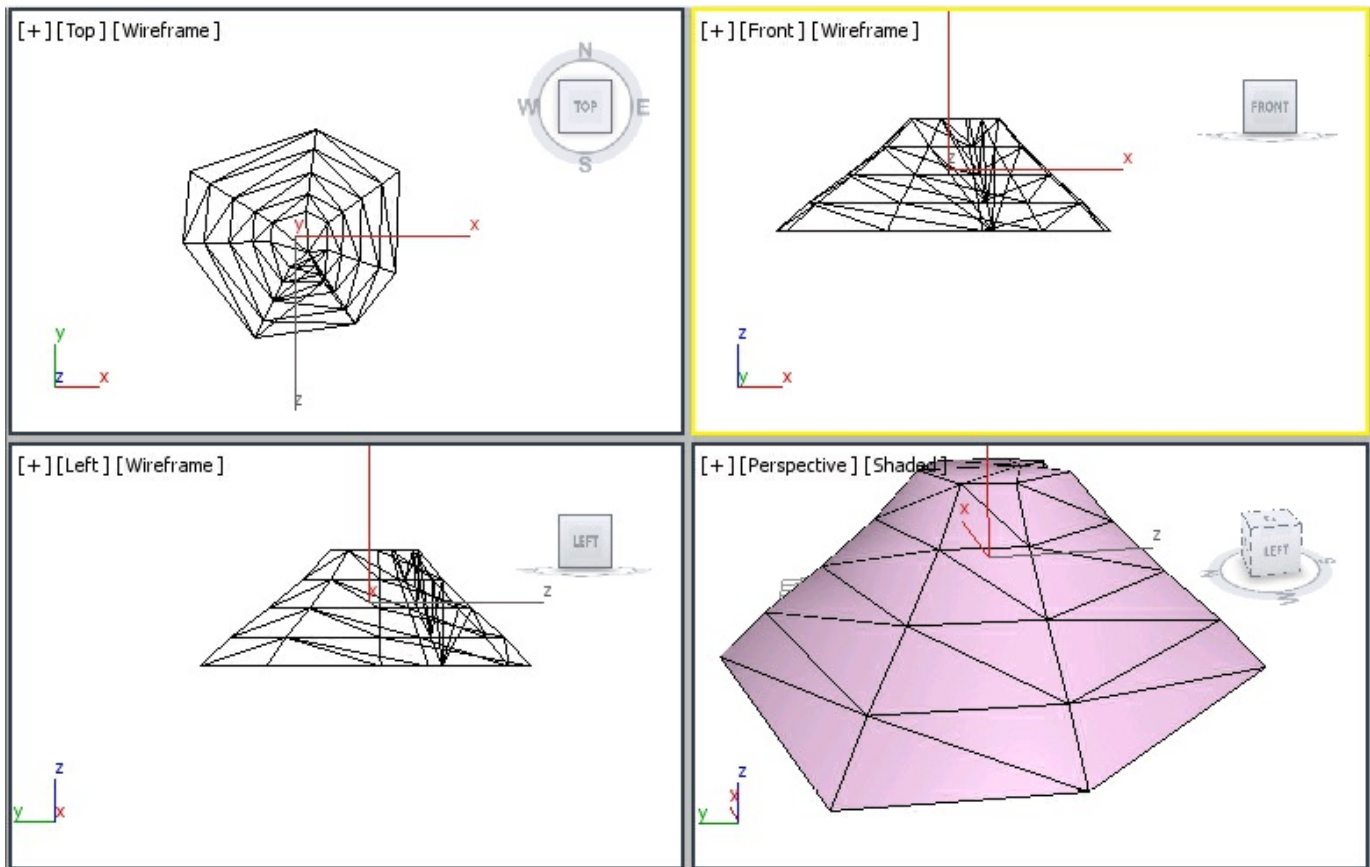

Figure 11-95 The terrain object created in viewports
8. Choose **Create > Geometry** in the **Command Panel** and select **Compound Objects** from the drop-down list displayed below the **Geometry** button. Choose the **Terrain** tool from the **Object Type** rollout; the terrain object is created, as shown in Figure 11-95. Right-click to exit the command.